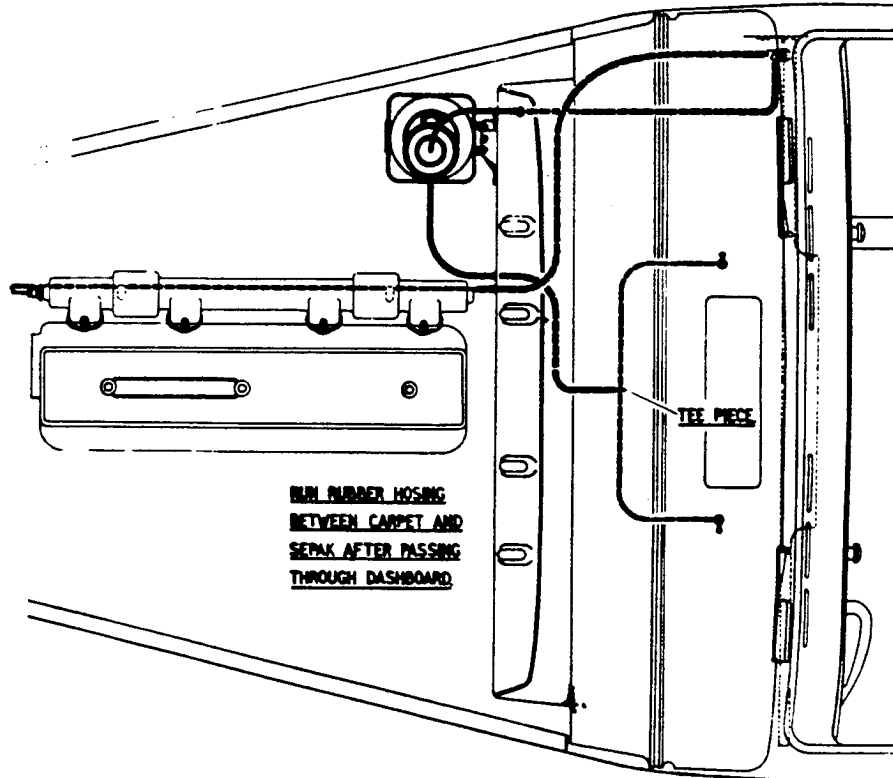
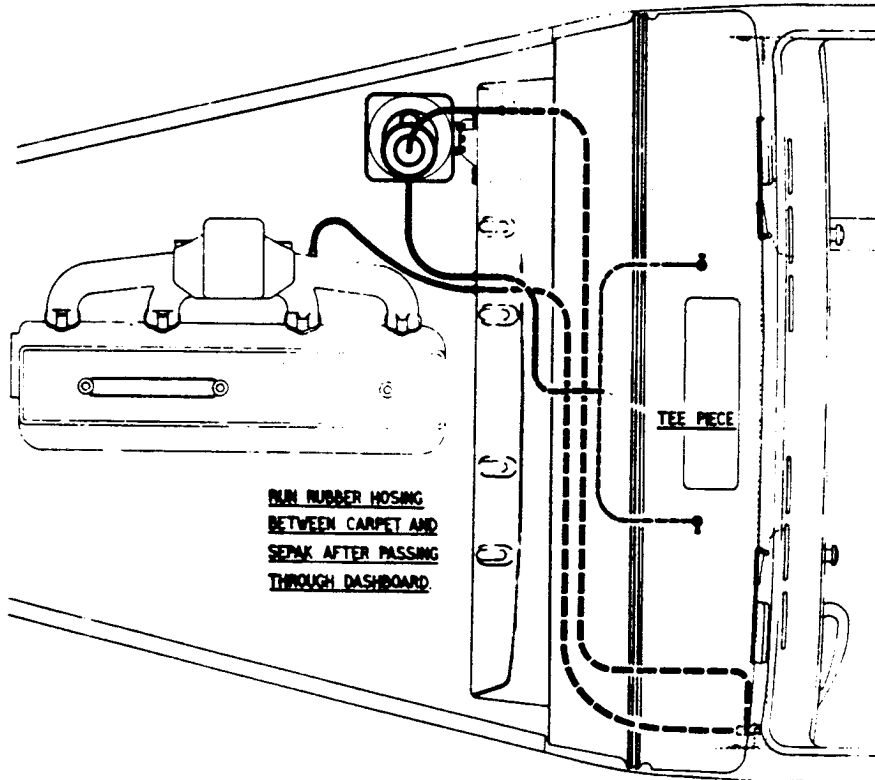

FIG. 10.
FIG. 11.
- (ii) Fit the special adaptor, RE-10883, (Aluminium Washer KB-1081), and connect up the suction pipe (this should run BELOW the induction manifold). Fit the two suction pipe clips (RE-10852) to the outer studs of the front and rear "hot spot" flange connections as shown in Fig.10.
8. Install the various lengths of rubber tubing (Fig.10 refers to right-hand drive cars, and Fig.11 to left-hand drive cars:-)